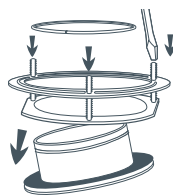

Fig. 3 Disassembling the mounting system
- 2 Turn the mounting assembly over and remove the flange ring from the track on the sink flange. Undo the three screws holding it together. This will allow the sink flange, mount ring, and protector ring to separate (fig 3).